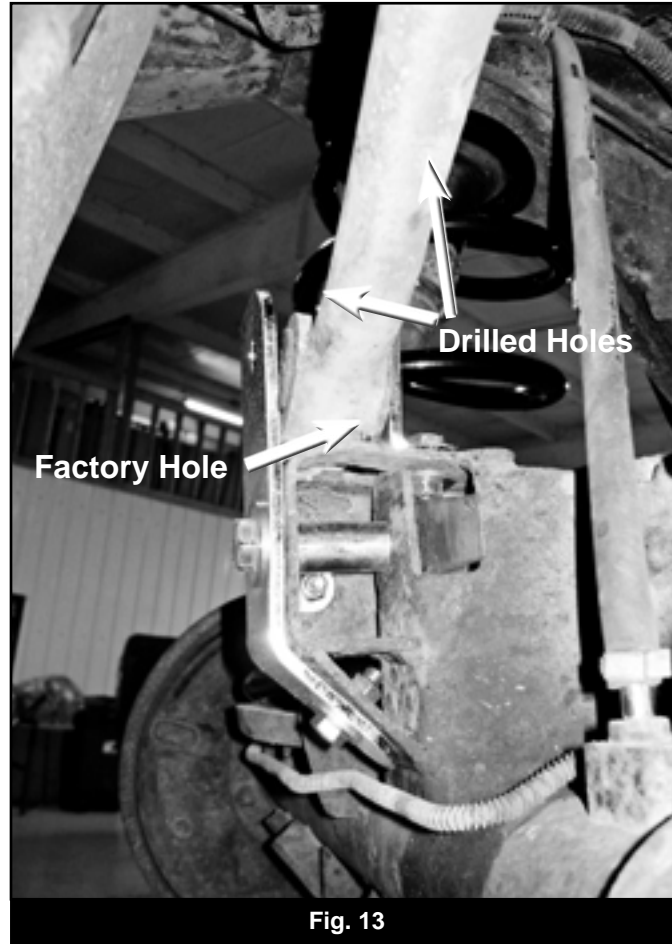

Fig. 12
22. Install the new upper control arms. The arms are driver and passenger side specific. When installed correctly, the adjustable end is at the frame with the zerk fitting down and the brake line tab is facing inward and down (Fig 12). Fasten to the frame with the OE hardware. At the axle use the provided 12mm x 80mm bolts, nuts, and washers (BP941) Leave hardware loose.
25. Remove the plastic cover from the track bar mount on the driver's side of the axle (Fig 12). Discard the cover. Disconnect the track bar from the axle by removing the Torx head bolt (T55). Note the orientation of the track bar, it can rest in the vehicle or be removed for re-installation later.